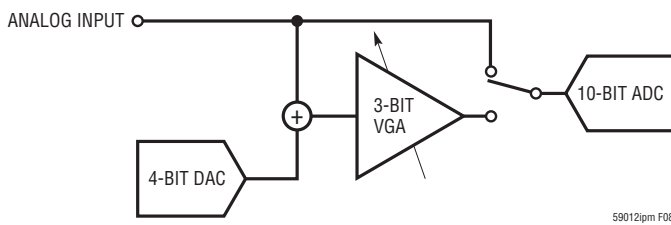

Figure 8. Analog Input Chain
**AI\_0, AI\_1, AI\_2, AI\_3:** Analog Inputs. These pins are multiplexed to the analog input chain. The analog input chain, as shown in Figure 8, is software-configurable and includes a variable-gain amplifier, an offset-DAC for adjusting input range, and a 10-bit ADC. Valid input range is between 0V to 1.8V. Analog inputs can be sampled as described in section Signal/Data Acquisition and Control.